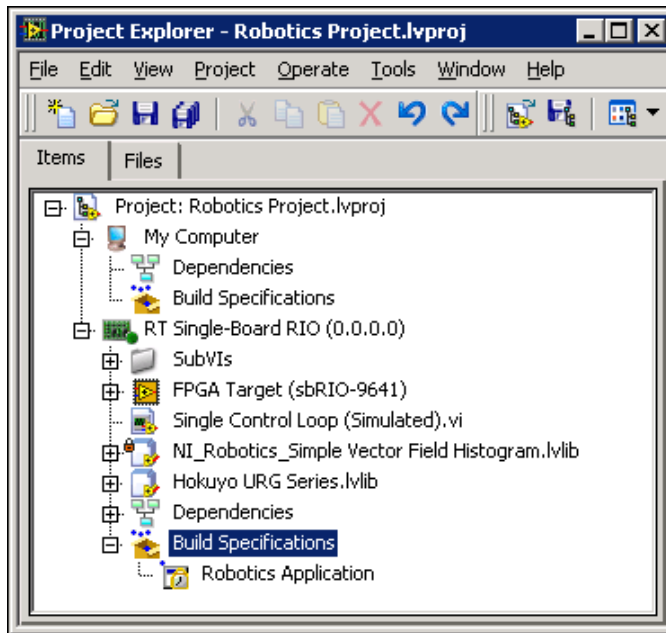

Figure 11. Creating a Build Specification
- Click the **OK** button to accept the settings and close the **Real-Time Application Properties** dialog box. The build specification name appears in the **Project Explorer** window under **Build Specifications** for the RT target, as shown in Figure 11.